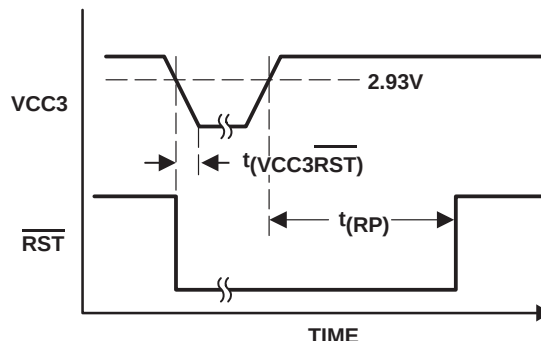

Figure 18. VCC3 to $\overline{\text{RST}}$ Timing
When a particular power supply voltage falls below a threshold of 2.93V (max), the associated reset output is asserted low for at least 140 ms after the power supply voltage has risen above the threshold (see Figure 18 and Figure 20). The reset outputs are a logic 0 for V_{CC} (V_{CC3} or V_{CC3AUX}) > 1 V.
- Figure 18 shows $\overline{\text{RST}}$ output behavior according to the voltage seen at the VCC3 terminal.